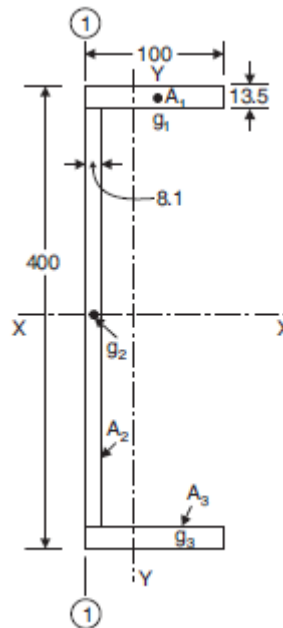

Fig.26
10. Compute the second moment of area of the channel section shown in Fig. 26 about centroidal axis x-x and y-y. [L2] [12M]